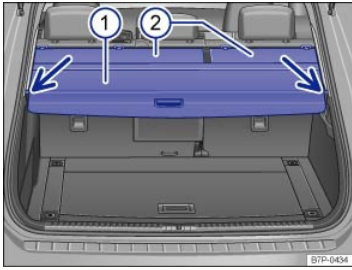
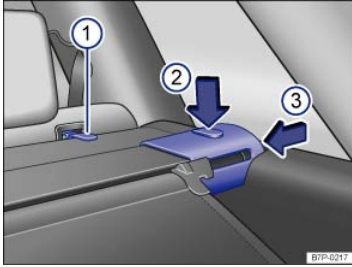

Fig. 98 In the luggage compartment: Closed luggage compartment cover.
Fig. 99 In the luggage compartment: Removing the luggage compartment cover.
- Grasp the luggage compartment cover ⇒ Fig. 98① by the handle and pull it slightly to the rear.
- Pull the retracted luggage compartment cover ⇒ Fig. 98① evenly towards the rear.
- If the gap cover is in use ⇒ Fig. 98②, unhook it from the fastening eyes on the rear seat backrests ⇒ Fig. 99①.
- Push down release button ⇒ Fig. 99② and push in the end parts of the luggage compartment cover ⇒ Fig. 99③.
- First fit the luggage compartment cover ⇒ Fig. 98① into the left-hand slot.
- Push down release button ⇒ Fig. 99② and push in the end parts of the luggage compartment cover ③.
- If there is a gap cover ⇒ Fig. 98②, hook it back into the fastening eyes on the rear seat backrests ⇒ Fig. 99①.